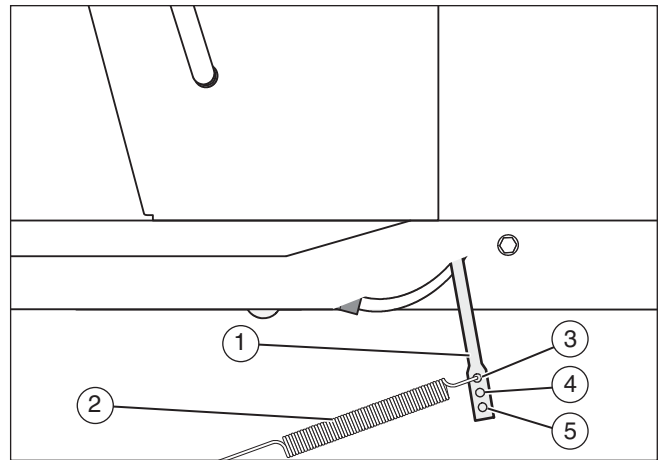

Figure 9
5. Disconnect the blade drive spring (2) from the blade control rod (1) (see **Figure 9**). Move the blade drive spring (2) to the middle hole (4). This will increase the tension on the mower drive belt.
6. Attach the wire to the spark plug. Mow for a short distance and again check the quality of cut. If necessary, move the blade drive spring (2) to the bottom hole (5).
14. If you replace the mower drive belt, move the blade drive spring (2) to the top hole (3) (see Figure 9).